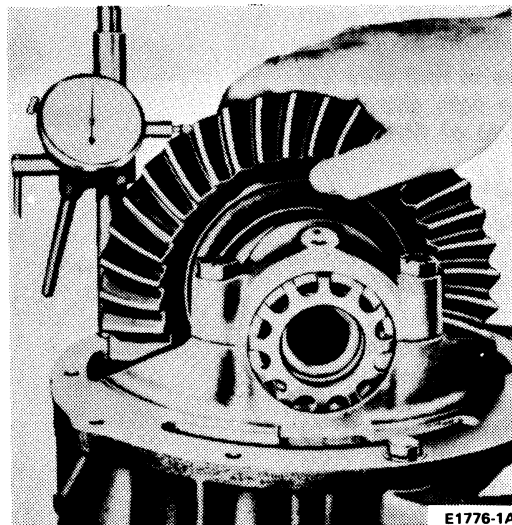

FIG. 45 Checking Backlash
6. Measure the backlash on several teeth around the ring gear (Fig. 45). If the measurements vary more than 0.101 mm (0.004 inch) (both integral and removable carrier), there is excessive runout in the gears or their mountings, which must be corrected to obtain a satisfactory unit. If the backlash is out